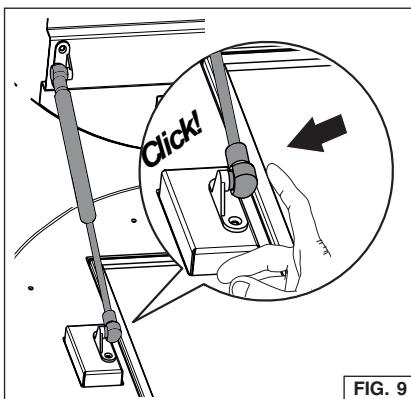

FIG. 9
3. Align end of cylinder with mounting bracket and push in to engage. Fig. 9.